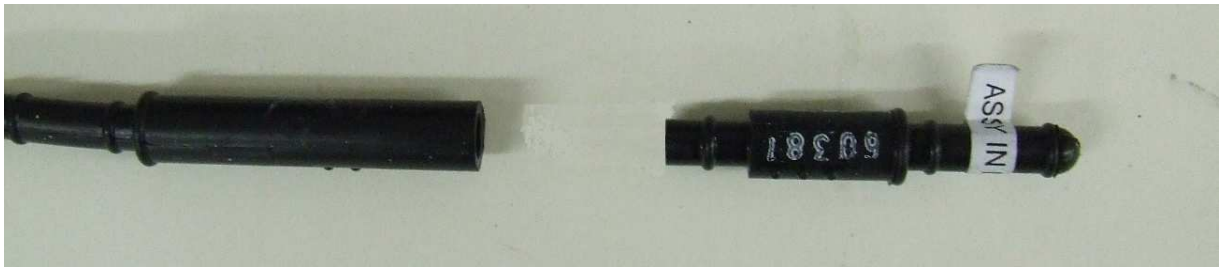

Figure 47 – Seaconn Dummy Plugs
- Remove the ground wire from the hammer, and disconnect the remaining three wires. The three female sockets (these are the ones wired to the winching cable conductors) should be plugged with the dummy pins supplied with the drill (as shown in Figure 47). This is to keep fluid out of the electrical contacts.